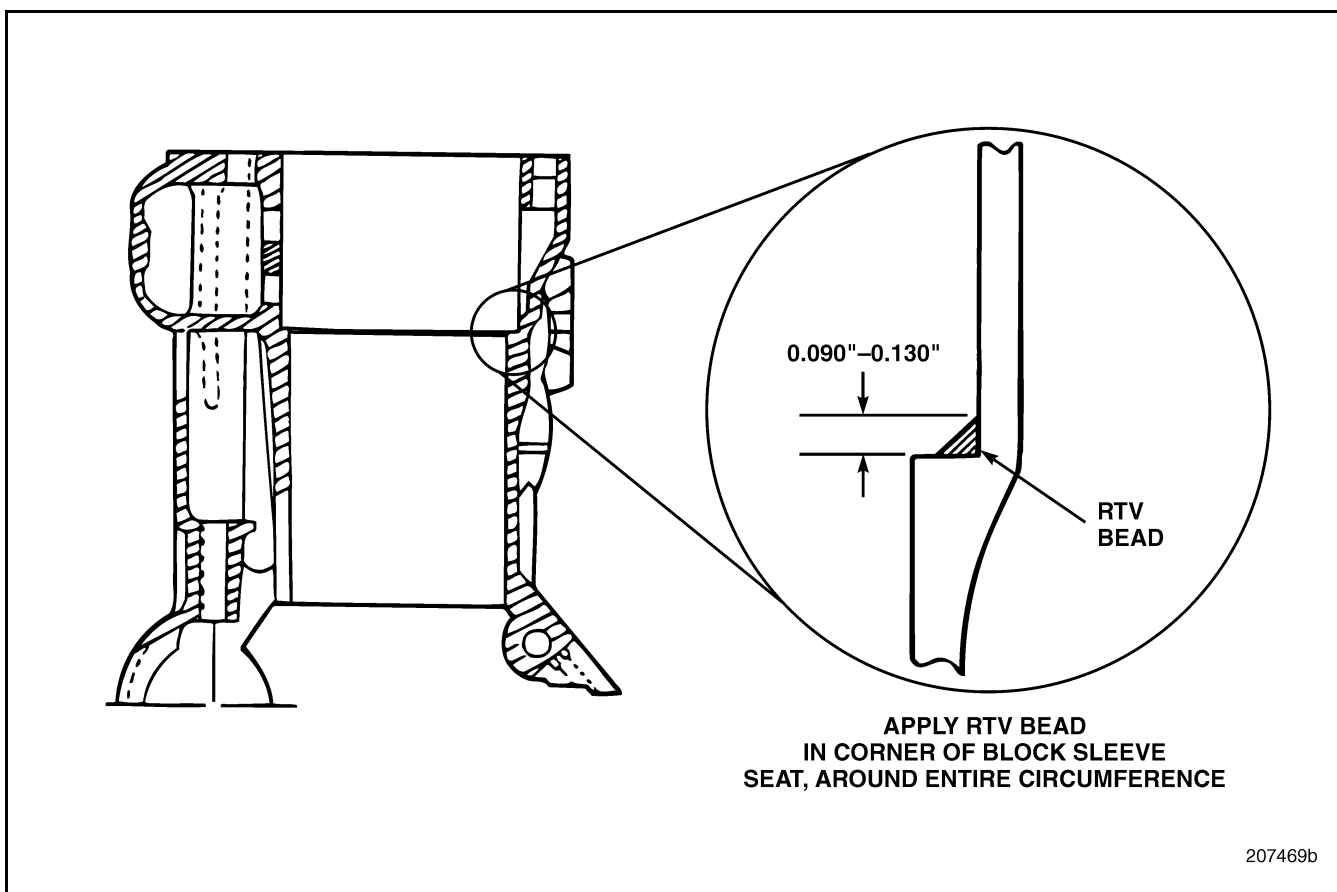

Figure 210 — Cylinder Block Sleeve Seat
3. Apply approximately a 0.090–0.130-inch (2.286–3.302 mm) bead of RTV silicone (MACK Silastic® 342SX32, Dow Corning Silastic® RTV732, General Electric RTV130 or equivalent) in the corner of the cylinder block sleeve seat and completely around the cylinder wall as shown in Figure 210. Do not use excessive amounts of RTV. Do not apply the bead more than 0.130-inch (3.302 mm) high.